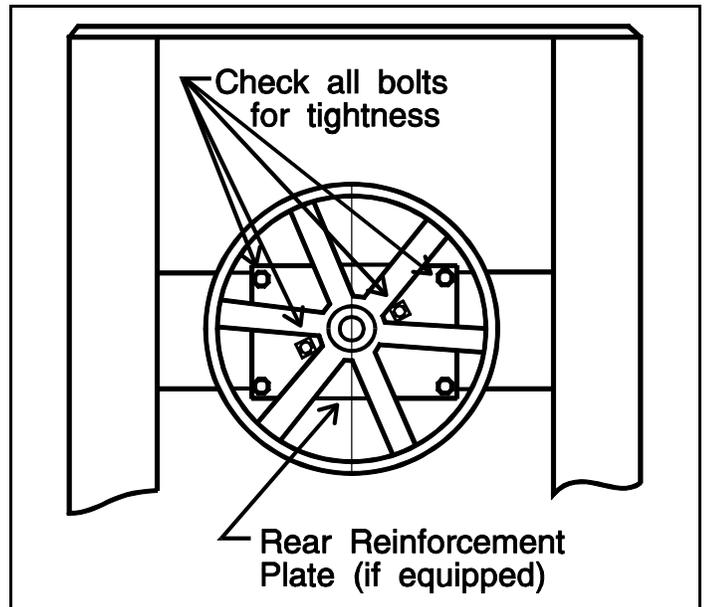
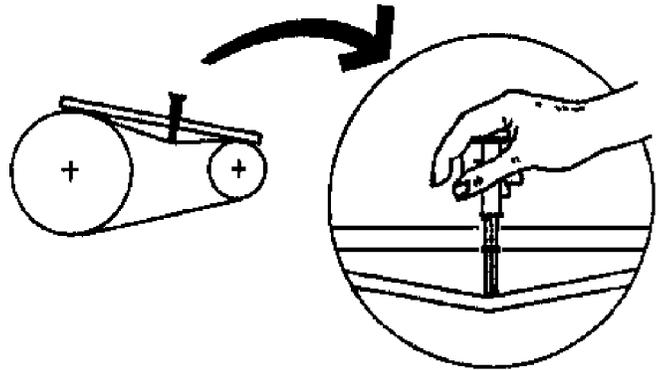

FIGURE 1 (MSSM0705CE)
FIGURE 3 (MSSM0706BE)
Check the main bearing support bolts for tightness as shown in FIGURE 1.
Check belt tension (FIGURE 3) when replacing and adjusting drive train components. Belt tension testing tool (Milnor® part number 30T001), straight edge, and Belt Tension Tables are required when setting belt tensions. **Do not refer to instruction sheet provided with tension testing tool.** Check tensions for new belts according to the following schedule:
2. Determine deflection for the tested belt (see FIGURES 1 and 2 for the belt location and Tables A and B for the setting range). Move lower O-ring to the correct setting (inches or centimeters) on scale. Read the bottom edge of the O-ring.
3. Place a straight edge along the top edge (pulley to pulley) of the belt to be tested (FIGURES 1 and 2). Depress the tension testing tool by sliding the cap against the middle of the belt span until the bottom edge of the lower O-ring aligns with the straight edge as shown in FIGURE 3.